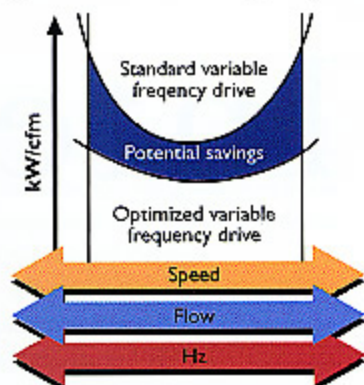

Figure 2. Variable speed control efficiently compensates for fluctuating air demand.
- The aircend must be designed to be efficient over the complete speed range. Aircend efficiency is a function of rotor tip speed and may be greatly reduced at lower or higher rpm (see Figure 2).